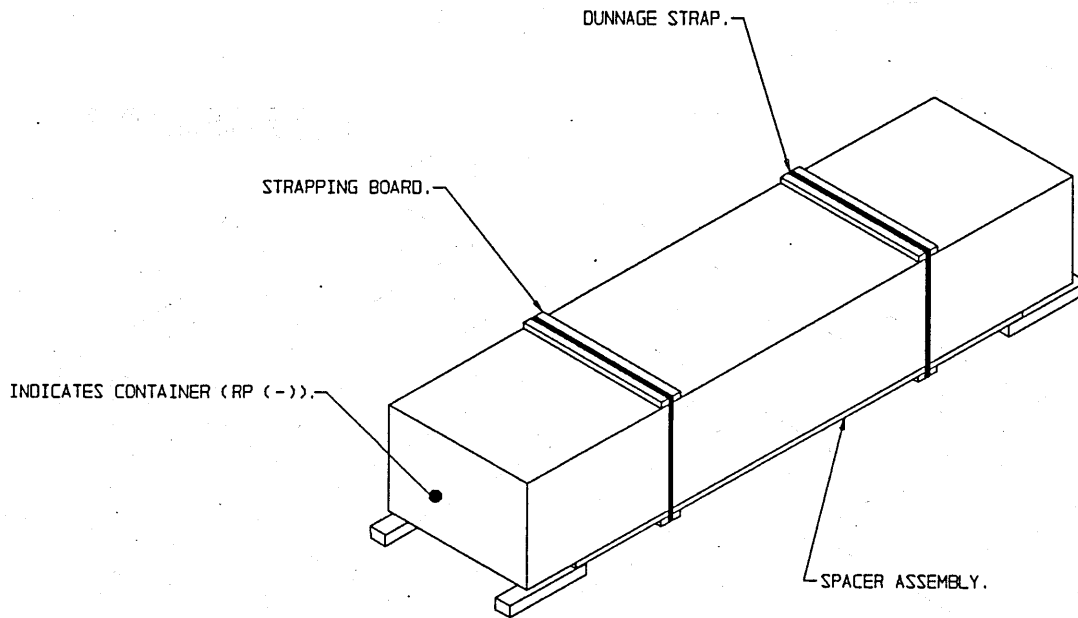

FIGURE 1
1. TWO (2) POD SUPPORT ASSEMBLIES ARE REQUIRED UNDER THE FRAME OF EACH FIRST-LAYER CONTAINER WHICH HAS ONE OR MORE CONTAINERS ON TOP. WHEN THE FIRST-LAYER CONTAINER HAS A SPACER ASSEMBLY ATTACHED, AS SHOWN IN THE FIGURE 1 VIEW ON PAGE 28, THE POD SUPPORT DUNNAGE WILL CONSIST OF LAMINATED 2" X 4" X 41-1/2" LONG PIECES IN LIEU OF THE LAMINATED 1" X 4" AND 4" X 4" X 41-1/2" LONG POD SUPPORT DUNNAGE SHOWN ON PAGE 3. SEE THE "ALTERNATIVE POD SUPPORT ASSEMBLY" DETAIL ABOVE.